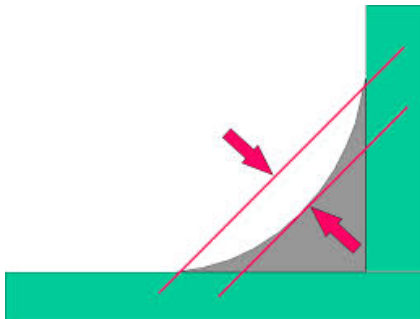

Figure 18. Representation of Under fill
**Under fill** can take place in a group weld or a fillet weld. It is simply the lack of weld metal in that particular weld joint (Figures 18 and 19). This weakens the weld due to the lack of material. Corrective action can be as simple as making the properly sized and shaped weld, and making sure not to miss a weld in a multi-pass weld joint. It seems simple but slowing down our travel speed be all it takes to make sure the weld profile or shape is correct and properly reinforces the joint as it was designed.